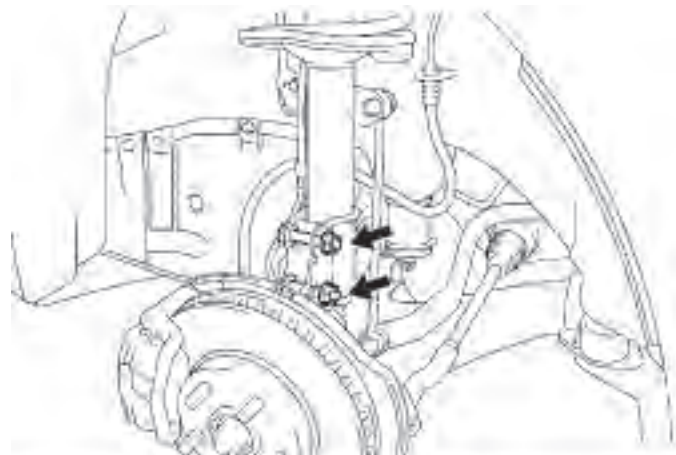

fig. 6
6. Clearly mark the location of the lower spindle bolts before removing. Unbolt the lower spindle mounting bolts and save for later re-installation (fig. 6).